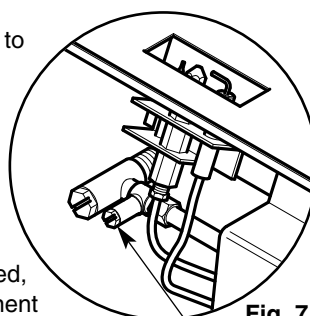

Fig. 7
1. Unscrew the inlet pressure test point sealing screw (Fig. 7) and fit a manometer. Consult the user instructions (page 9). Ignite the appliance and turn to the high position.